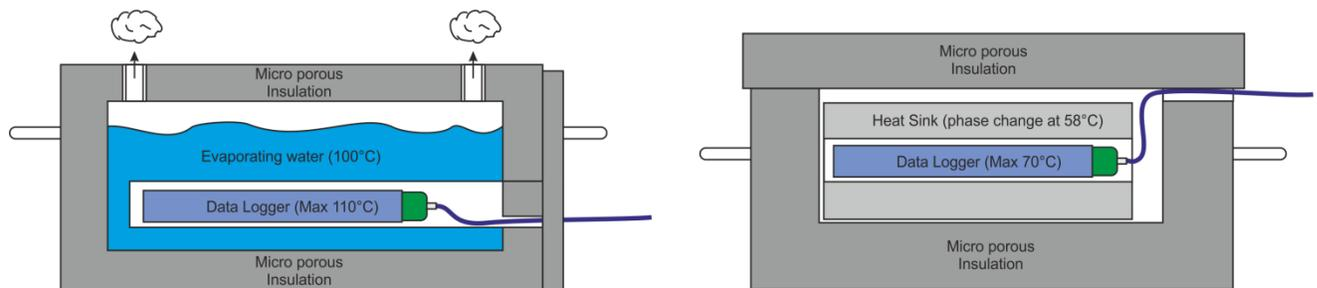

Figure 6 Thermal barriers operate on either 'evaporative' or 'heat sink' technology
- **Atmosphere in the furnace.** The furnace atmosphere will not only determine the material the thermal barrier will be constructed from, but may also affect the performance of a thermal barrier e.g. a hydrogen atmosphere will lessen the thermal performance, whereas a vacuum will increase the performance. The furnace atmosphere will also determine the thermal barrier 'technology' that can be used. There are two basic technologies that keep the data logger at a safe operating temperature (figure 6);